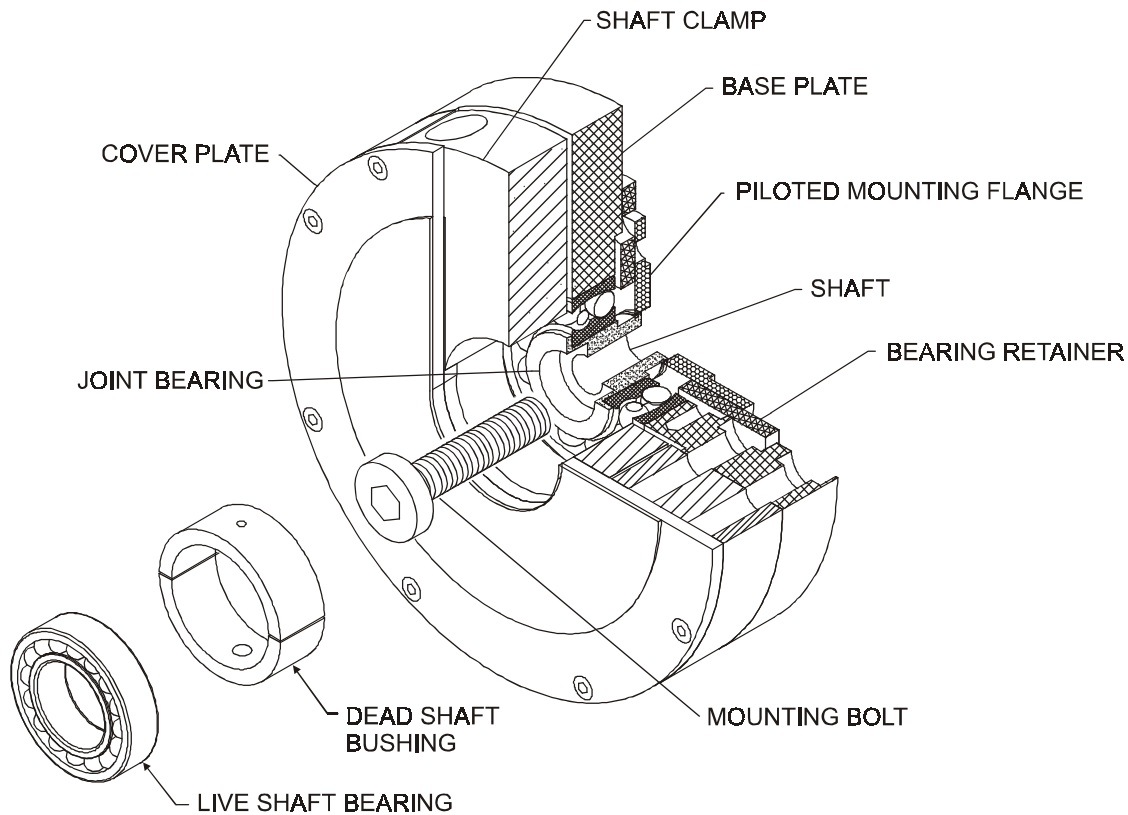

Figure 1 - MODEL THN CUT-AWAY VIEW
1.2 CONSTRUCTION AND MECHANICAL OPERATION (see Figure 1)